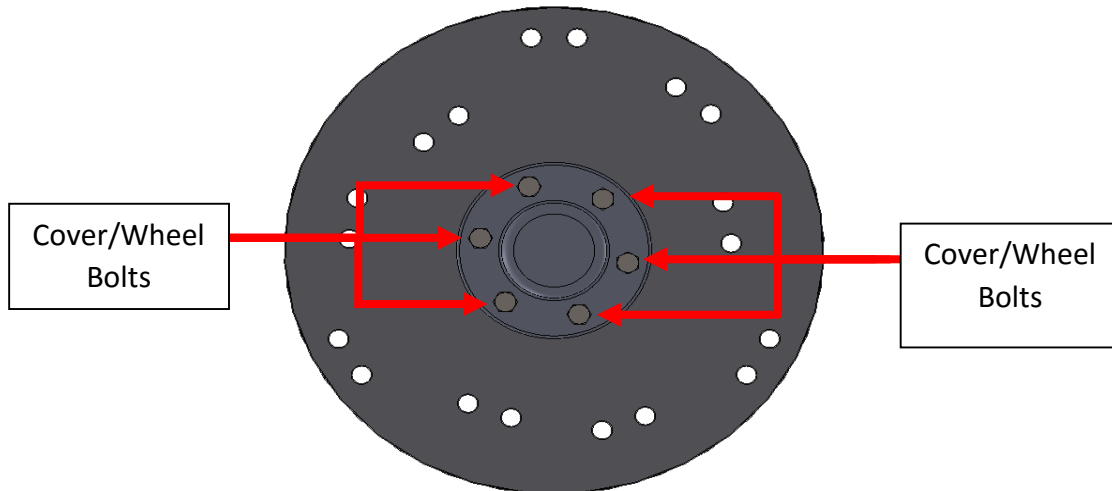

Figure 1.1
1. Remove 6 bolts attaching center cover and wheel to the cutter wheel hub. (Figure 1.1)